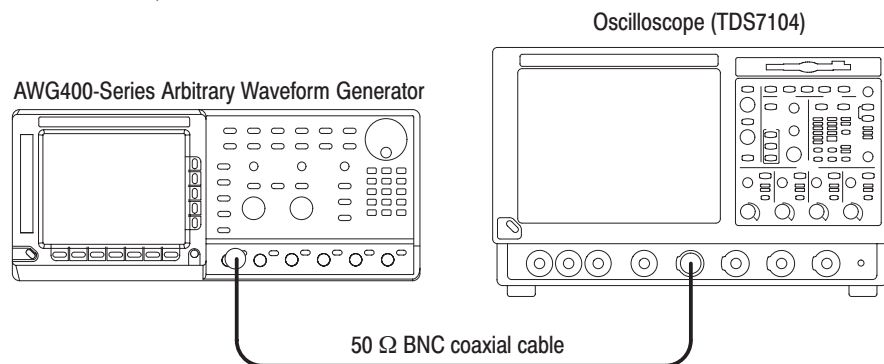

Figure 4–19: Direct DA output pulse rise time initial test hookup
- a. Use the 50 Ω BNC coaxial cable to connect the AWG400-Series CH1 output connector to the oscilloscope CH1 input connector (see Figure 4–19).